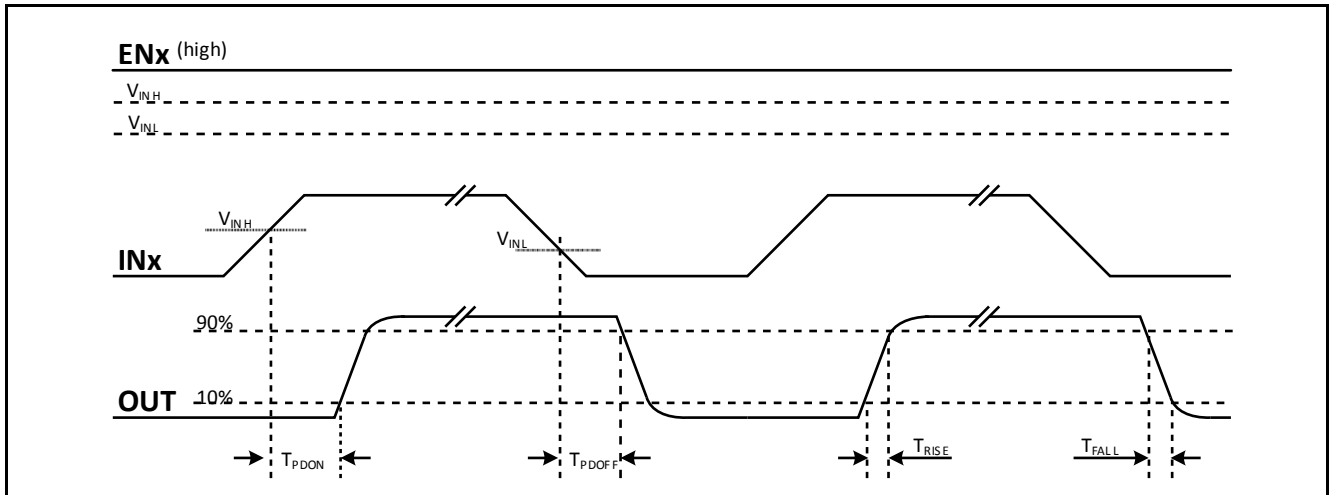
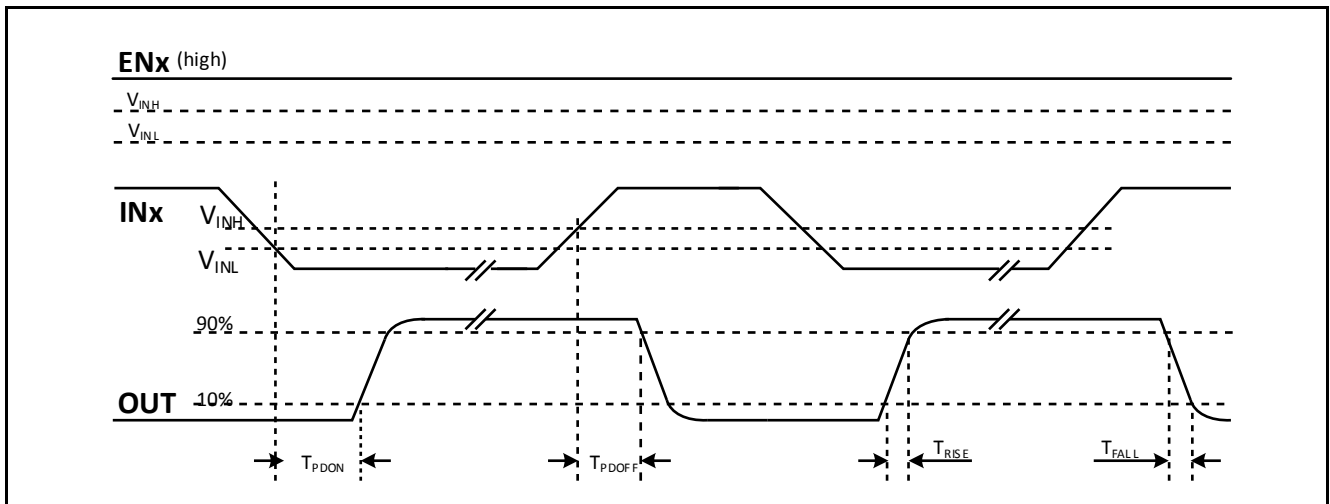
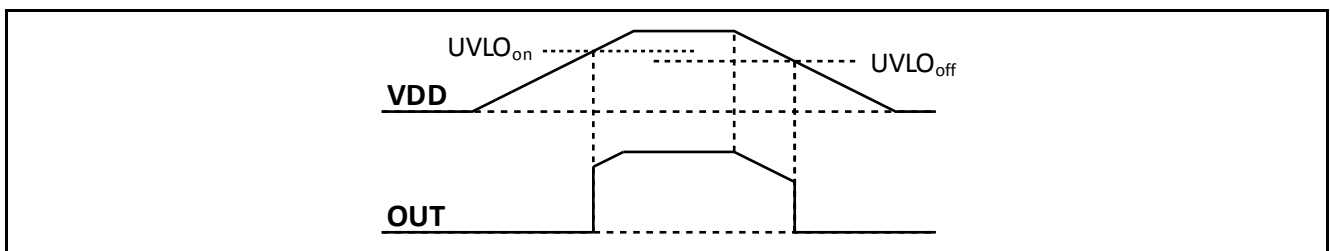
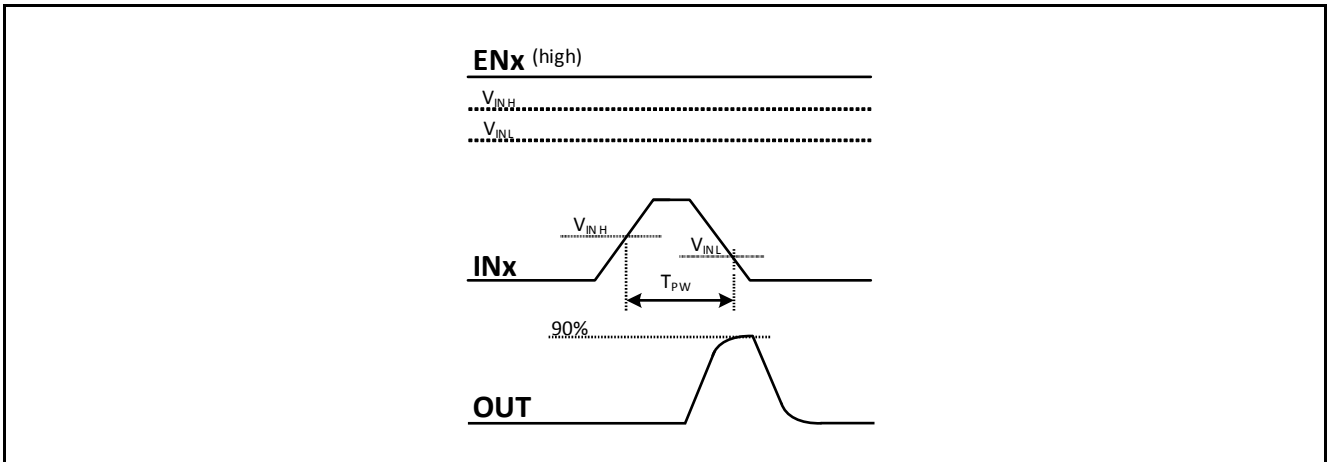

Figure 6-1 Propagation Delay, Rise and Fall Time, Non-inverted
Figure 6-2 Propagation Delay, Rise and Fall Time, Inverted
Figure 6-3 UVLO Behaviour, Input ENx and INx drives OUT normally high
Figure 6-4  $T_{PW}$ , minimum input pulse width that changes output state
**Table 5-8 Static Output Characteristics (see Figure 6-2)**
**Table 5-9 Dynamic Characteristics (see Figure 6-1, Figure 6-2, Figure 6-3 and Figure 6-4)**
Table 5-9 Dynamic Characteristics (see Figure 6-1, Figure 6-2, Figure 6-3 and Figure 6-4)
Figure 6-1 shows the definition of rise, fall and delay times for the inputs of the non-inverting version (with Enable pin high or open).
Figure 6-2 shows the definition of rise, fall and delay times for the inputs of the inverting version (with enable pins high or open).
Figure 6-3 illustrates the undervoltage lockout function.
Figure 6-4 illustrates the minimum input pulse width that changes output state.